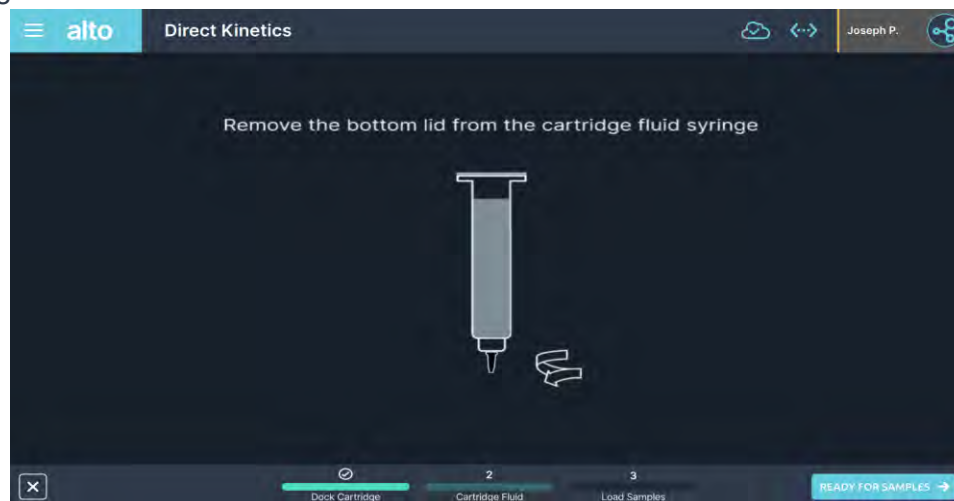

Figure 5.26: Loading the cartridge fluid into the cartridge.
- The software screen (Figure 5.26) will direct you to load the cartridge fluid into the cartridge.